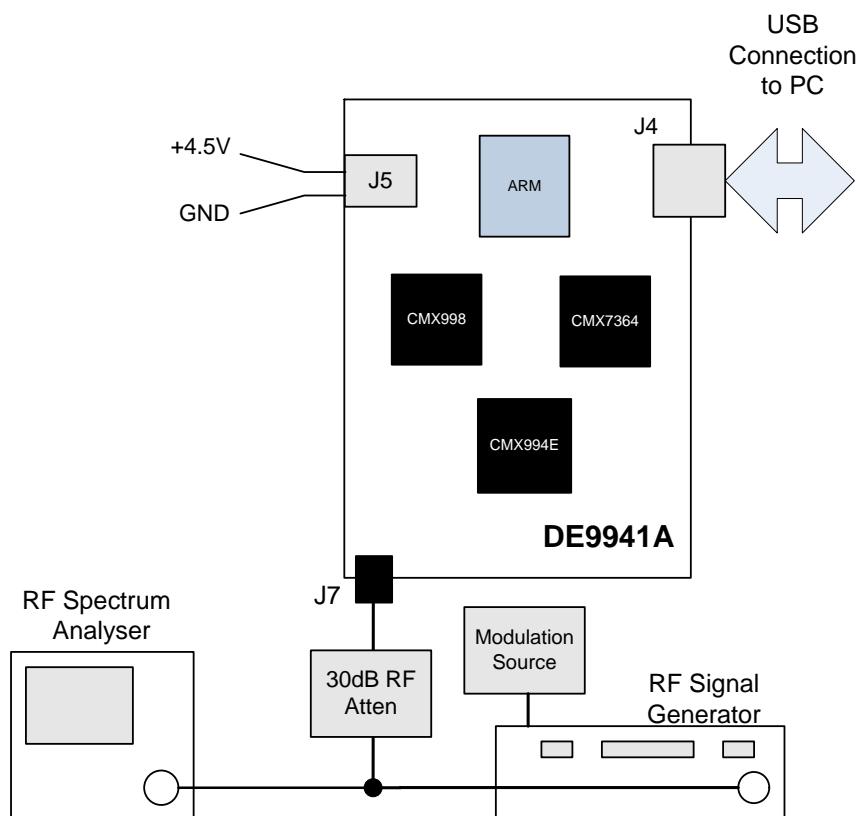

Figure 2 Typical Evaluation Connections for DE9941A
1. Connect the boards as shown in Figure 2. J7 should be connected to either an RF signal generator or spectrum analyser via a suitable 50Ω attenuator. If testing the transmitter, the RF output J7 should be connected to a suitable 50Ω load.